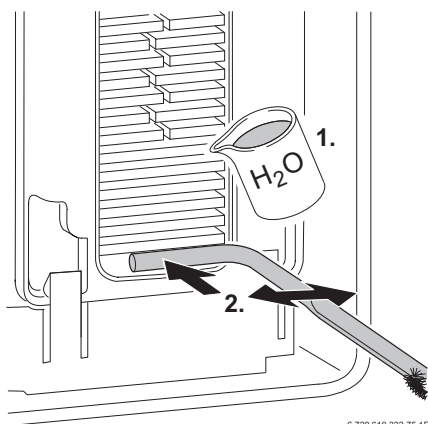

Fig. 51
- ▶ Flush the heat exchanger from the top. Refer to fig. 51.